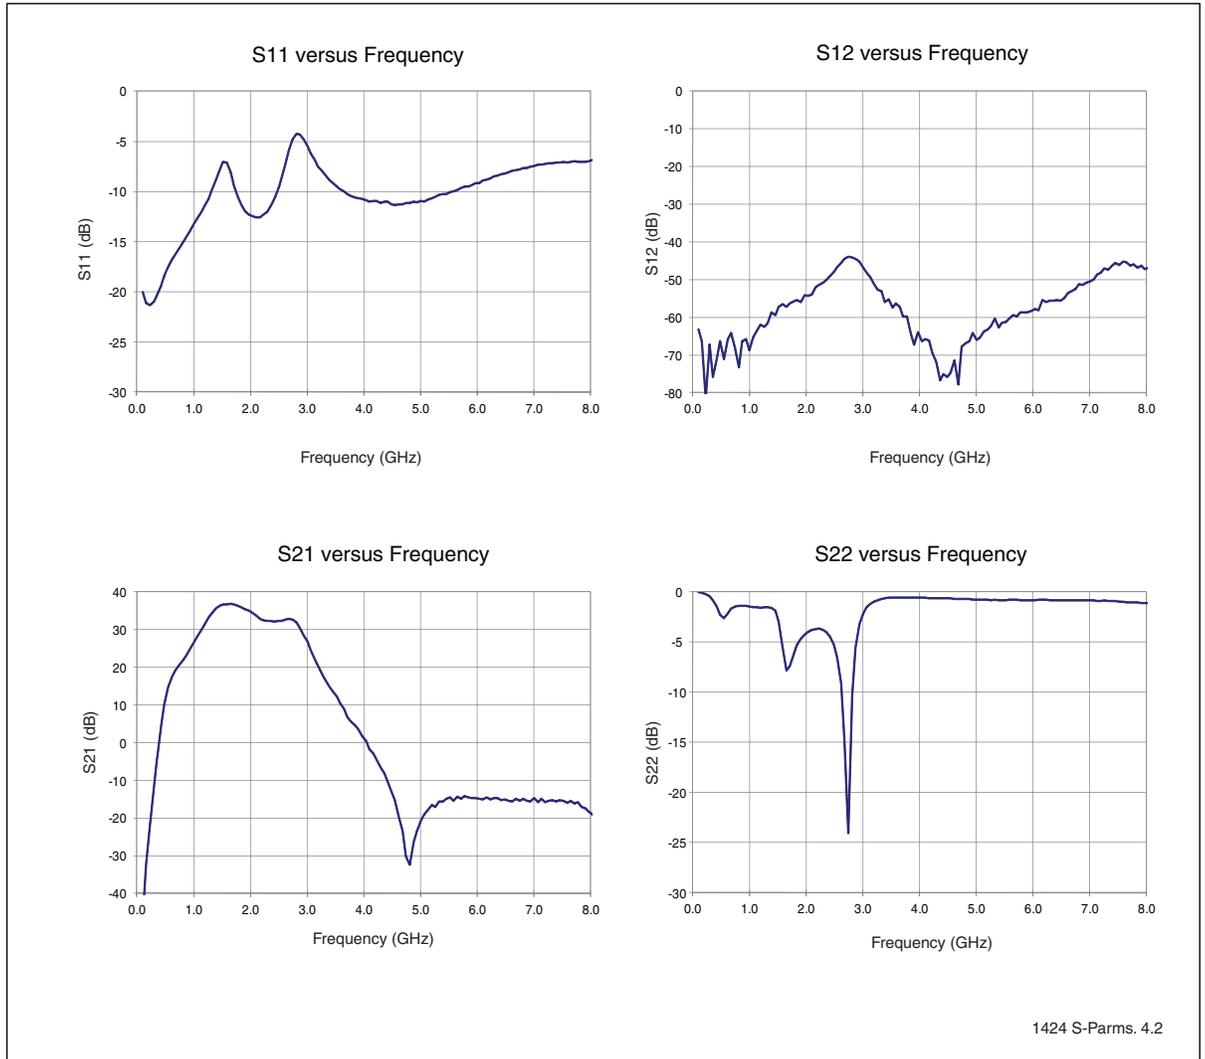
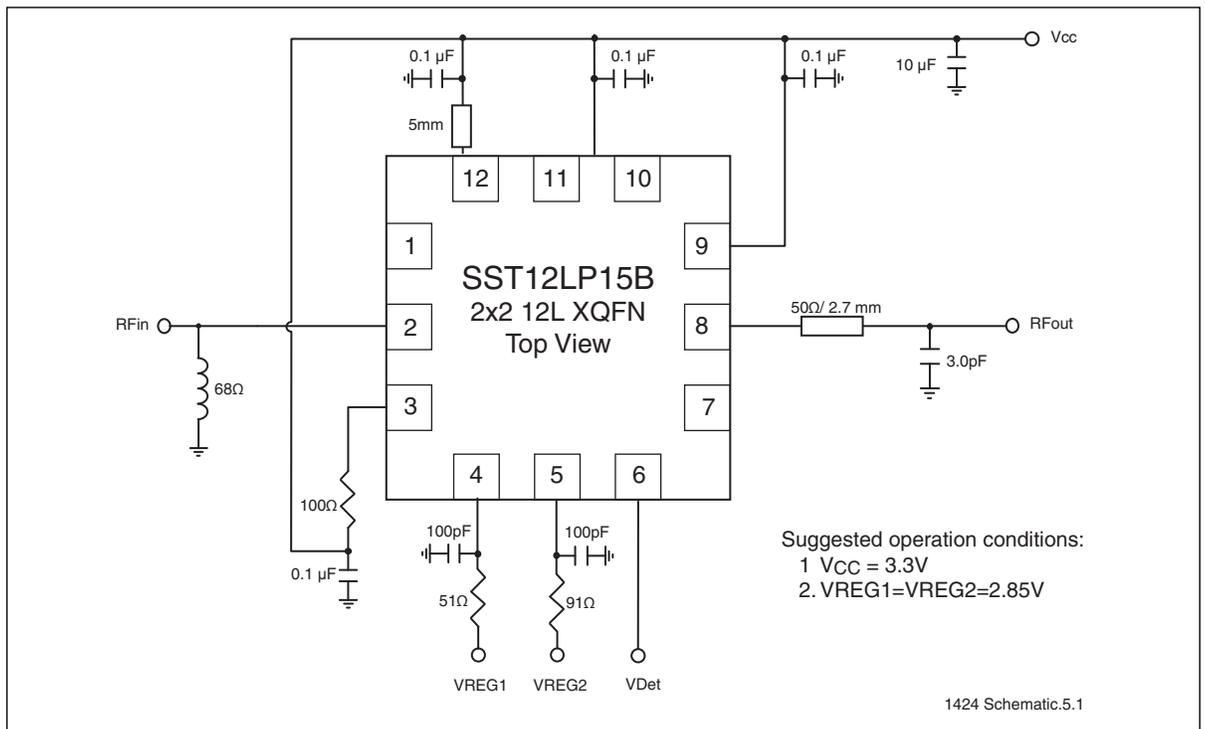

Figure 12: S-Parameters
Figure 17: Typical Schematic for High-Linearity, 802.11b/g/n Applications for 12-contact XQFN
Table 4 shows the DC and RF characteristics for the configuration that achieves high spectrum mask compliant output power. The associated schematic is shown in Figure 17 for the 16-contact VQFN package. The RF performance is shown in figures 12 through 16.
**Table 4:** DC and RF Characteristics for High-Spectrum Mask Compliant Output Power Performance at 25°C, at 3.3V VCC unless otherwise noted, for 16-contact VQFN (Schematic in Figure 17)
#### Typical Performance Characteristics for High-Spectrum Mask Compliant Output Power Configuration for 12-contact XQFN package (Schematic in Figure 17)
**Table 5:** DC and RF Characteristics for High-Spectrum Mask Compliant Output Power, Performance at 25°C, for 12-contact XQFN (Schematic in Figure 17)